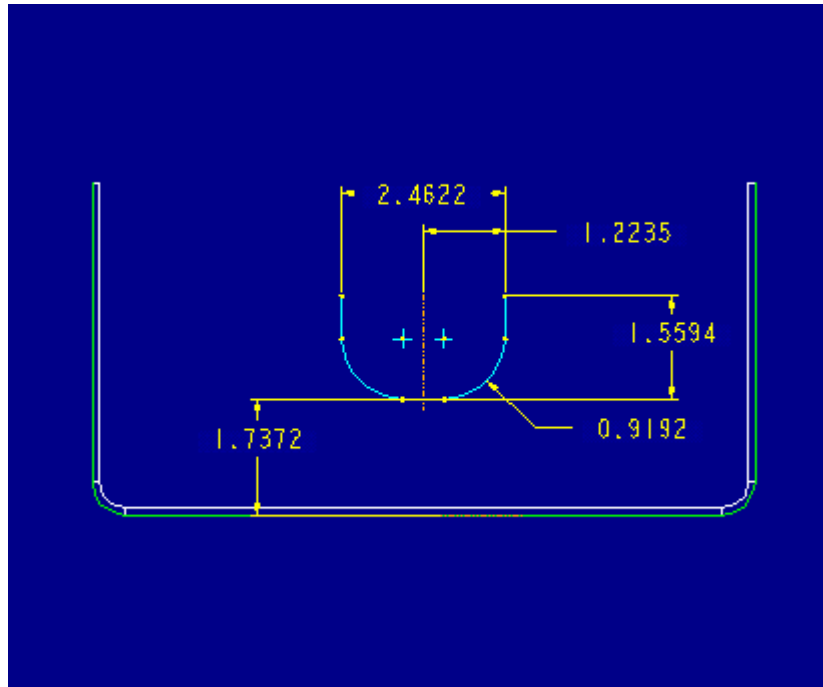

Figure 3
3. To create the unattached wall, select **Feature, Create, Sheetmetal, and Wall**. Select **Extrude**, checkmark **Unattached**, and select **Done**. Create the feature on **One Side** and select **Done**. For the sketching plane, select **Make Datum, Offset** and select DTM3. Select **Enter Value** and input a value for the offset. The datum plane is now fully constrained. Select **Done** and **Okay** for the direction of feature creation. Select DTM2 as the **Top** plane and sketch the section shown in Figure 3.